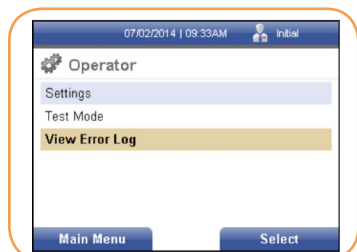

FIGURE 96
- From the Operator screen, use the [↓] key to cursor down to the View Error Log text field (Figure 96).